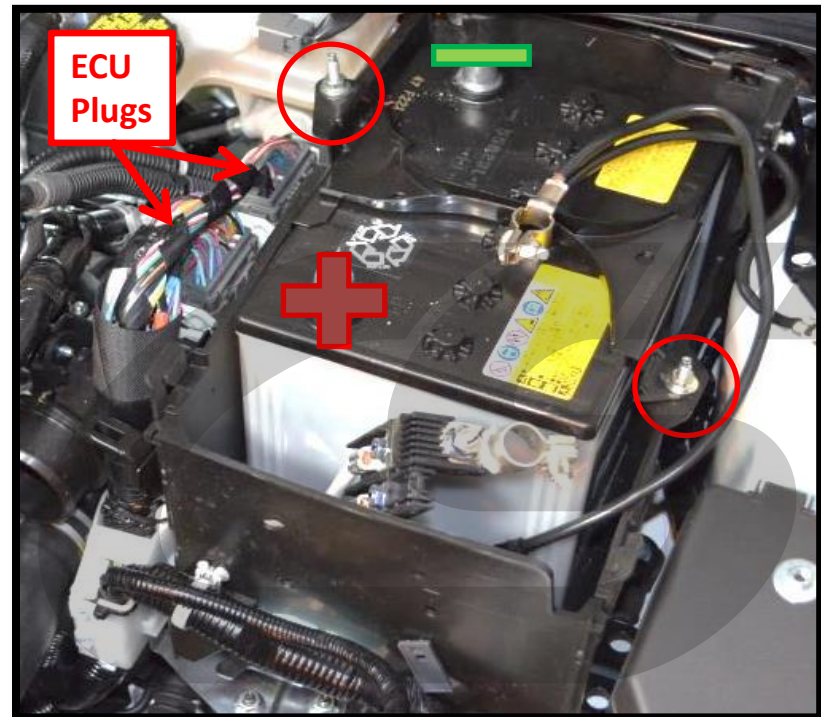
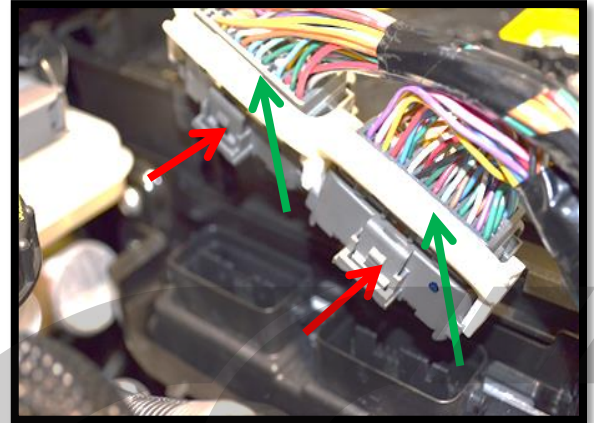

Figure 2b
Figure 2d
b) **Disconnect the battery.** Disconnect the battery terminals with a 10mm end wrench. Refer to Figure 2b for negative (-) and positive (+) terminals (Figure 2b).
c) **Remove the two 10mm nuts for the battery tie down bracket** (shown with red circles in Figure 2b).
- f) **Disconnect the ECU plugs** by pushing on the tabs (**red arrows** in **Figure 2d**) and pulling the white lock upward simultaneously (**green arrows** in **Figure 2d**). Refer to **Figure 2b** for location of ECU plugs and **Figure 2d** for close ups.